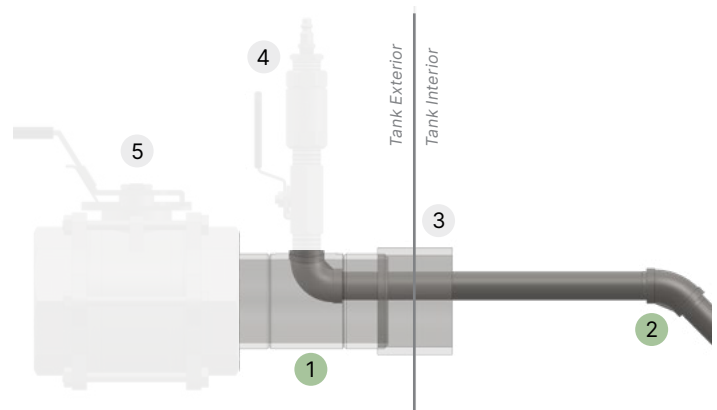

Fig. 3: Nipple Joiner connection
- Move the Nipple Joiner Assembly inside the tank and connect it to the threaded elbow inside the 3" Nipple Adaptor (Fig. 3).